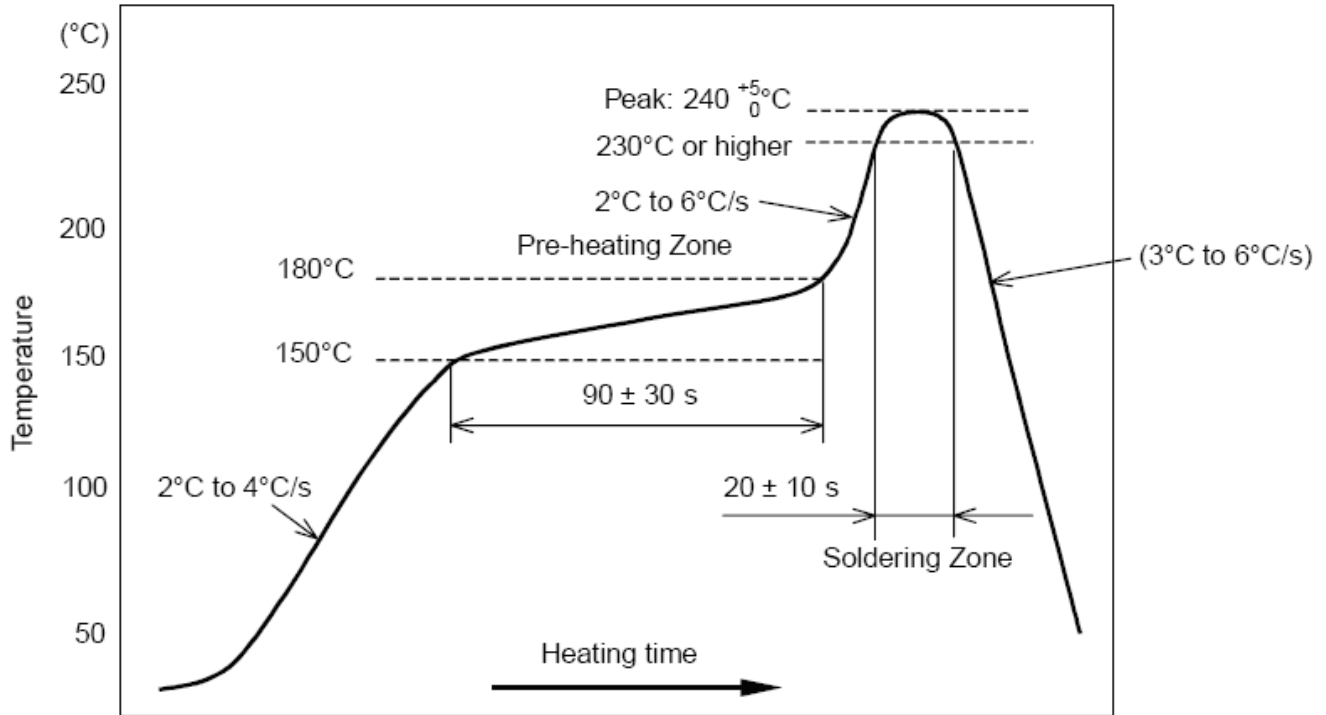

Figure 10-1. Temperature Profile for Evaluation of Solder Heat Resistance of a Component (at Solder Joint)
- Temperature measurement: Thermocouple d = 0.1 mm to 0.2 mm CA (K) or CC (T) at soldering portion or equivalent method
- Allowable reflow soldering times: 2 times based on the reflow soldering profile (see Figure 10-1)
- Temperature profile: Reflow soldering will be done according to the temperature profile (see Figure 10-1)